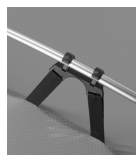

Figure 4
- Attach all Fast-Fit Clips along the length of the pole (Figure 4).